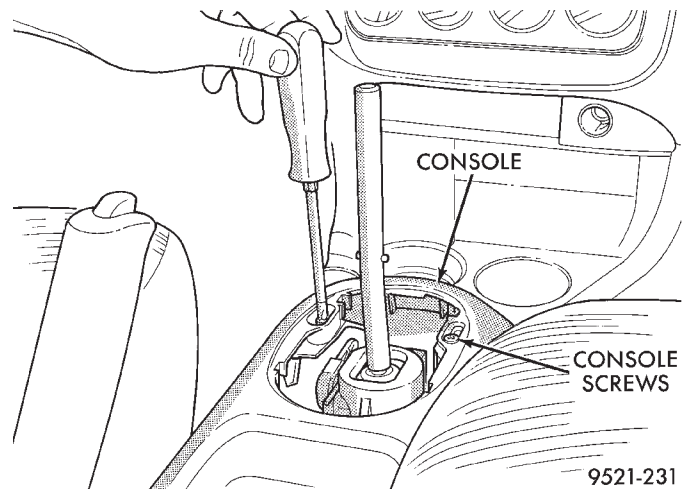
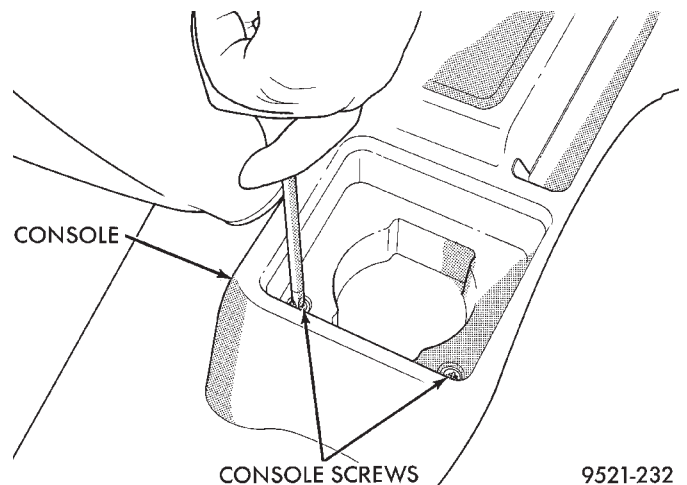

Fig. 11 Console Front Screws
Fig. 12 Console Rear Screws
(5) Pull cables up out of transaxle bracket.
(6) Remove gearshift knob and boot. Refer to Knob and Boot Removal in this section.
(7) Remove console front screws (Fig. 11). Remove console rear screws (Fig. 12).